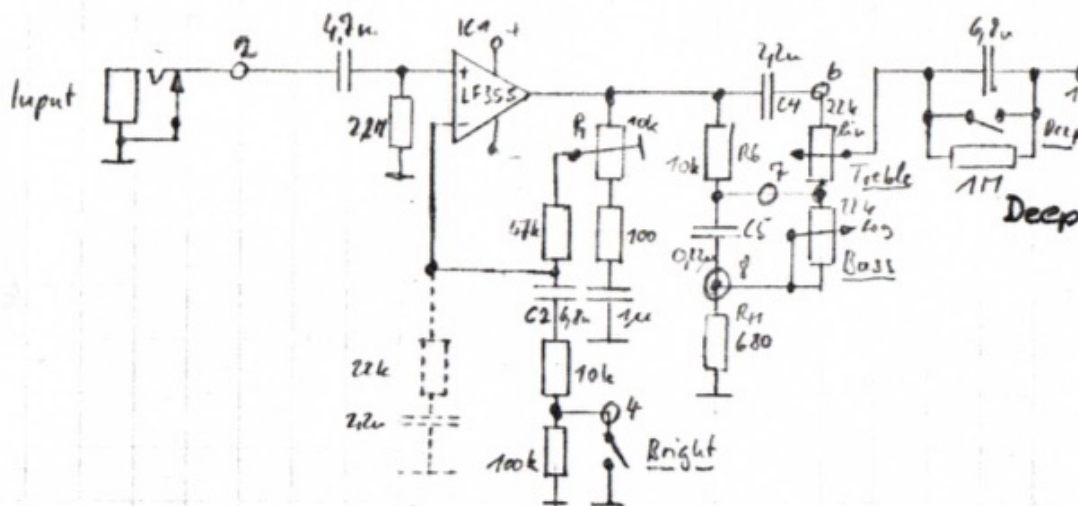

Fig. 1: Preamplifier (linear part) with “Treble” & “Bass” controls, and “Bright”- and “Deep”-switches
- **Linear preamp (Fig. 1):** in a first construction stage, I did not fit any distortion circuit to the amp since I did not really have a grip on what to do there at the time.